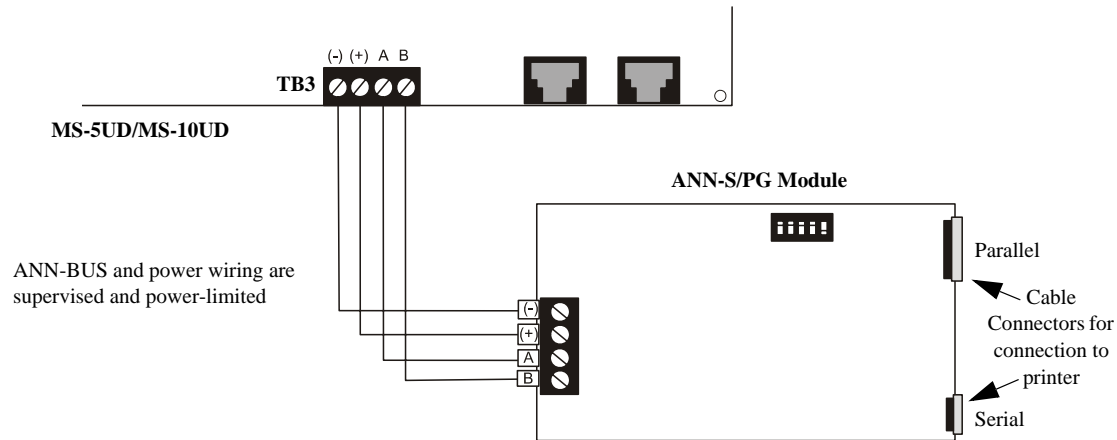

Figure 2.21 ANN-S/PG Connection to FACP
2. Connect the ANN-S/PG to the FACP as illustrated in Figure 2.21
5. Connect a printer to the ANN-S/PG Parallel and/or Serial connectors (refer to Figure 2.21 on page 44)